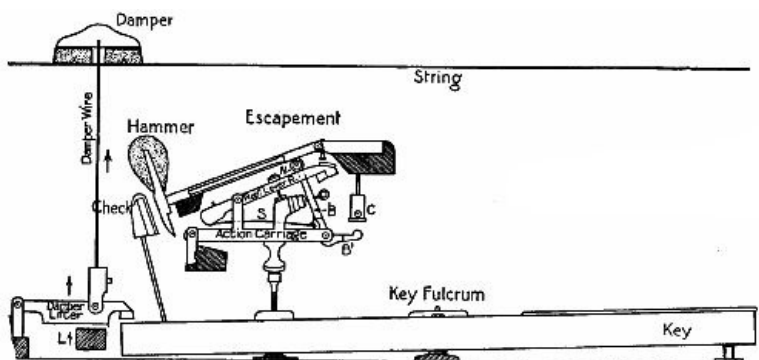

FIG. 135.—The striking mechanism of a "grand" piano.
We now pass to the apparatus for putting the strings in a state of vibration. The grand piano mechanism shown in Fig. 135 may be taken as typical of the latest improvements. The essentials of an effective mechanism are:—(1) That the blow delivered shall be sharp and certain; (2) that the string shall be immediately "damped," or have its vibration checked if required, so as not to interfere with the succeeding notes of other strings; (3) that the hammer shall be able to repeat the blows in quick succession. The *hammer* has a head of mahogany covered with felt, the thickness of which tapers gradually and regularly from an inch and a quarter at the bass end to three-sixteenths of an inch at the extreme treble notes. The entire eighty-five hammers for the piano are covered all together in one piece, and then they are cut apart from each other. The consistency of the covering is very important. If too hard, it yields a harsh note, and must be reduced to the right degree by pricking with a needle. In the diagram the felt is indicated by the dotted part.